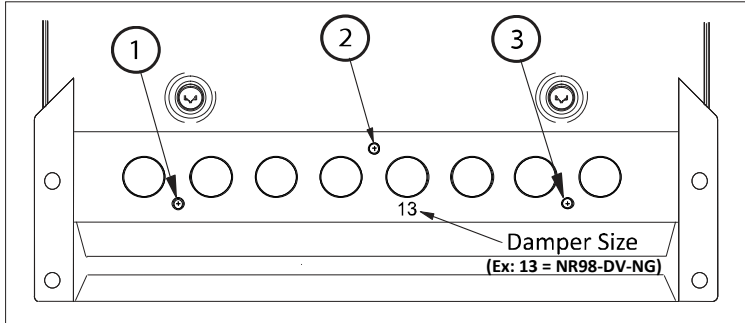

FIGURE 3
- 7) After manifold plate is removed, the existing damper will be exposed as indicated in Figure 3 below. Remove screws (1), (2), (3), and then pull the damper off the burner assembly. Check for proper size of damper with the chart below and replace with new damper that was included with your gas conversion kit.